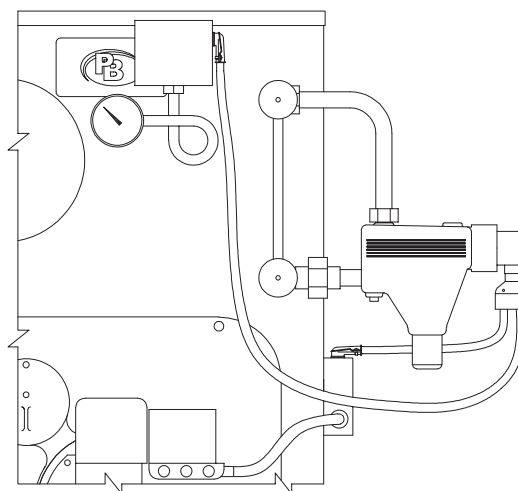

Figure 3.7: Float Low Water Cut-off
- Install the limit / operating control, pressure gauge, gauge glass trim and safety relief valve. See Figure 7.2 (Section 7), Figure 3.7 (float boilers) and cover photo (probe boilers).
- See Figure 3.7 for application of float low water cut-offs.